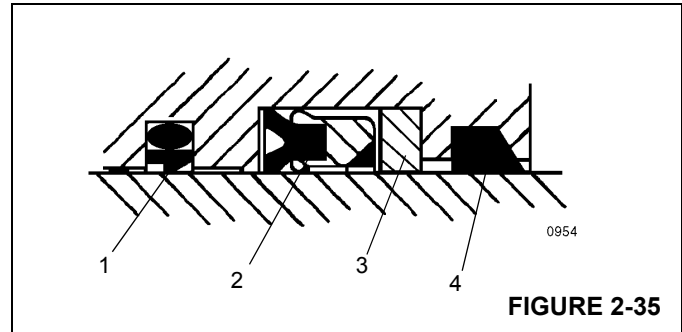

FIGURE 2-35
4. Install the replacement wear rings, buffer seal and deep Z rod seal in the inside of the head. Make sure the buffer seal's step is closer to the deep Z rod seal Figure 2-35. Make sure the deep Z rod seal's rim groove is closer to the buffer seal.